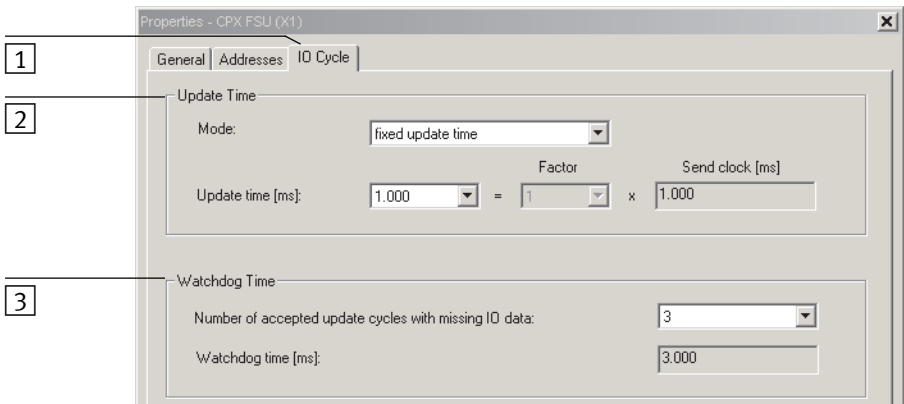

Fig. 2/6: “Fast-Start-up” settings – adaptation of the I/O cycle time (update time)
- Place a check in front of “Prioritized Startup” **2** in the window “Properties – CPX” (see Fig. 2/5).
- Select the tab “IO Cycle” **1** in Fig. 2/6).